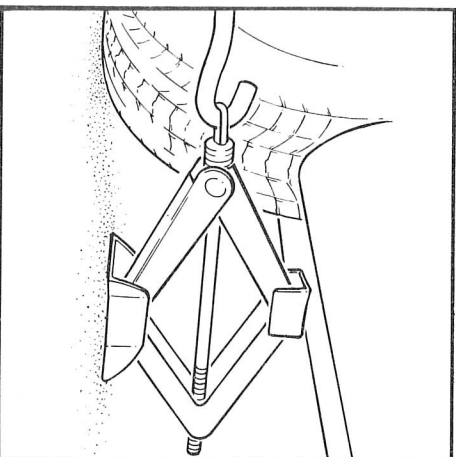
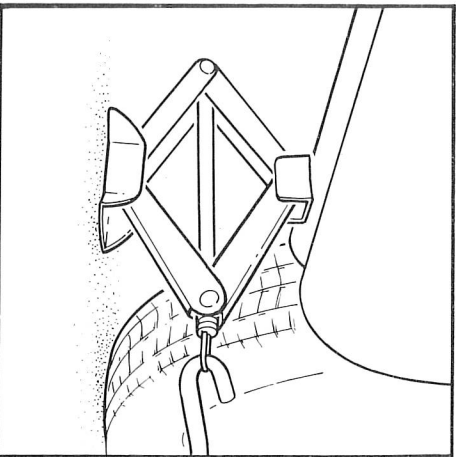

Fig. 37 Jacking Point – Front.
Fig. 38 Jacking Point – Back.
b) Position Vehicle "scissor" jack (found in boot) on Front: Main chassis tube as Fig. 37. Back: Main Chassis Tube as Fig. 38.